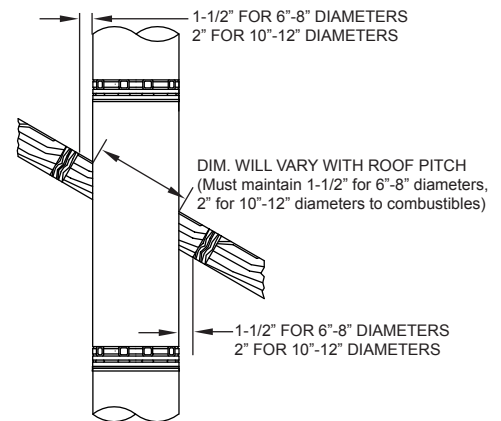
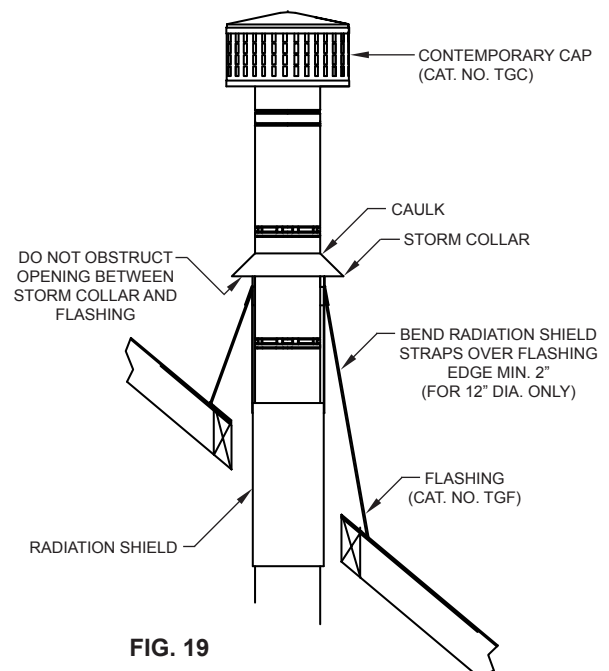

FIG. 18
FIG. 19
2. Install the next TG chimney section through the roof. See FIG. 18. For 12" chimney only, install a radiation shield (TGRSH) over the chimney section so that the shield straps can be temporarily bent over the roof to hold in place. After installing the flashing, these straps will be attached to the flashing as shown in FIG. 19.